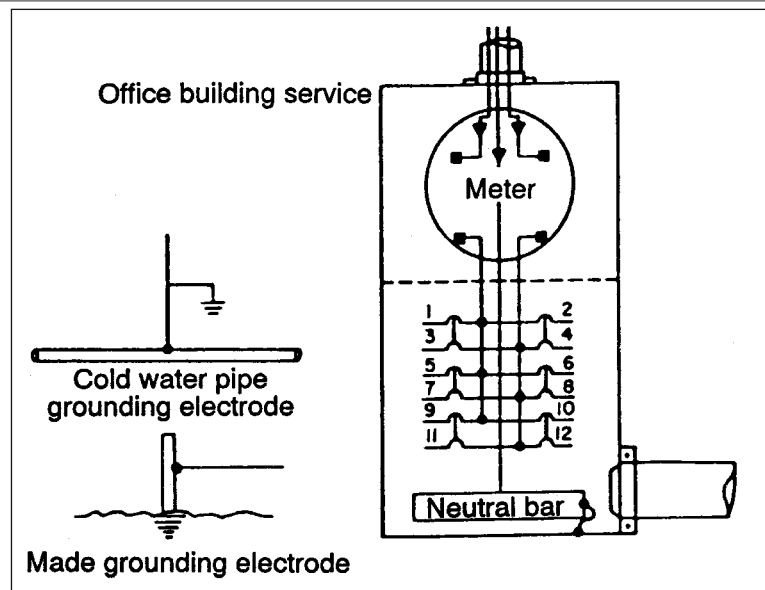

Figure 14-10: Electric service for an office building, with details of the grounding electrodes
14. The total computed load for the electric service shown in Figure 14-10 is 200 amperes for each ungrounded conductor and 60 amperes maximum unbalanced load for the grounded (neutral) conductor. If a THW copper conductor is used, the minimum allowable size of the grounded (neutral) conductor is: